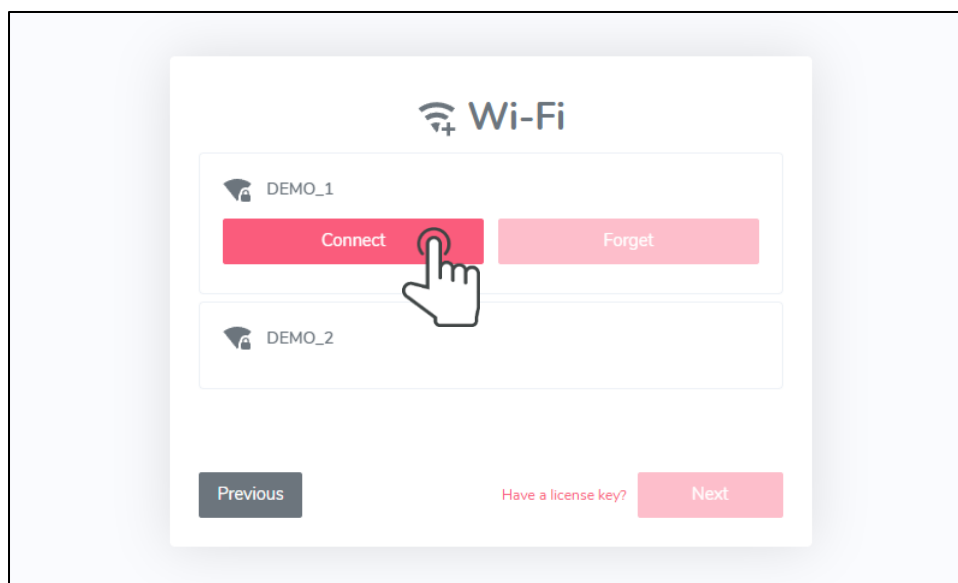
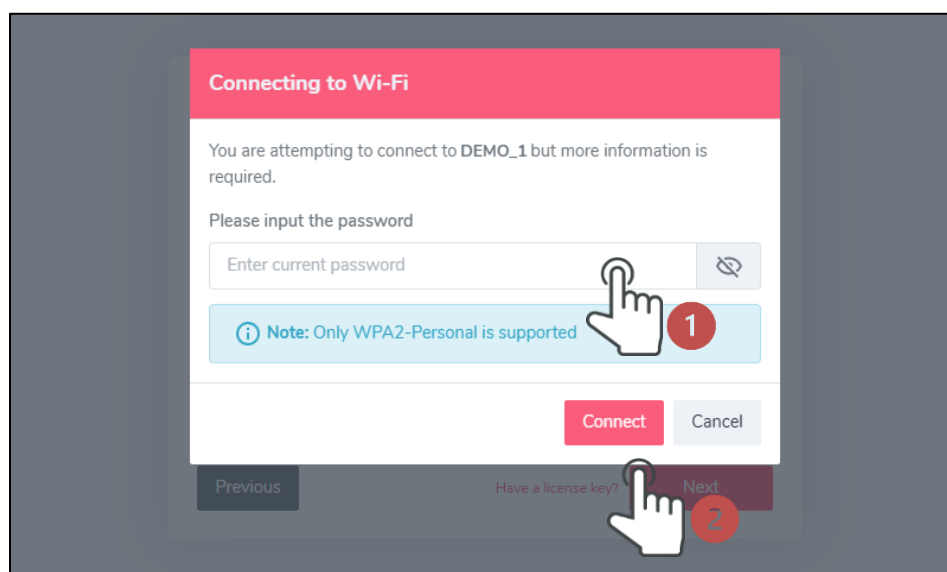

Figure 5
Figure 6
2. Then, tap on 'Connect' (Figure 5) and enter the Wi-Fi password when prompted (Figure 6).